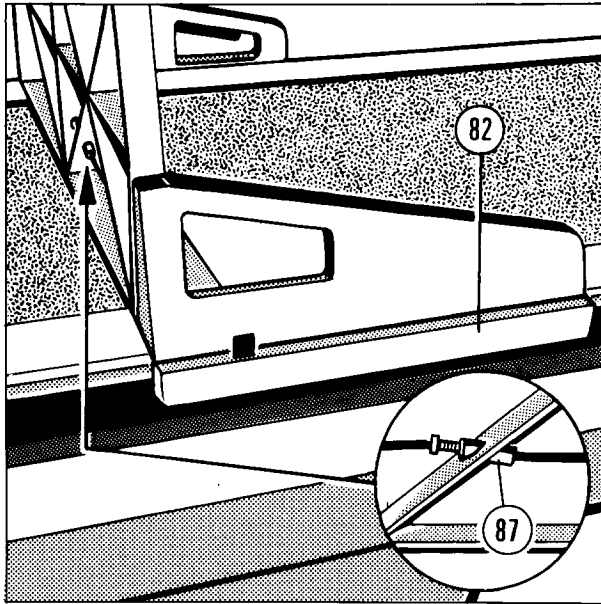

Fig. 26
- Take off trim cover (Fig. 26/item 82).
- Adjust the turn buckle (Fig. 26/item 87) for proper function.